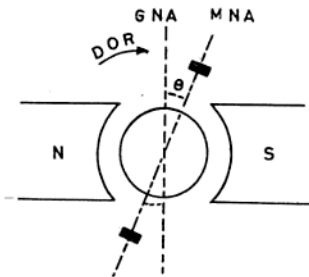

Fig. 7.31 Remedy of armature reaction
- (i) Brushes must be shifted to the new position of the MNA in the direction of rotation of the armature by shifting the rocker's position (Fig. 7.31). This is done by rocker arm as shown in Fig. 7.31.